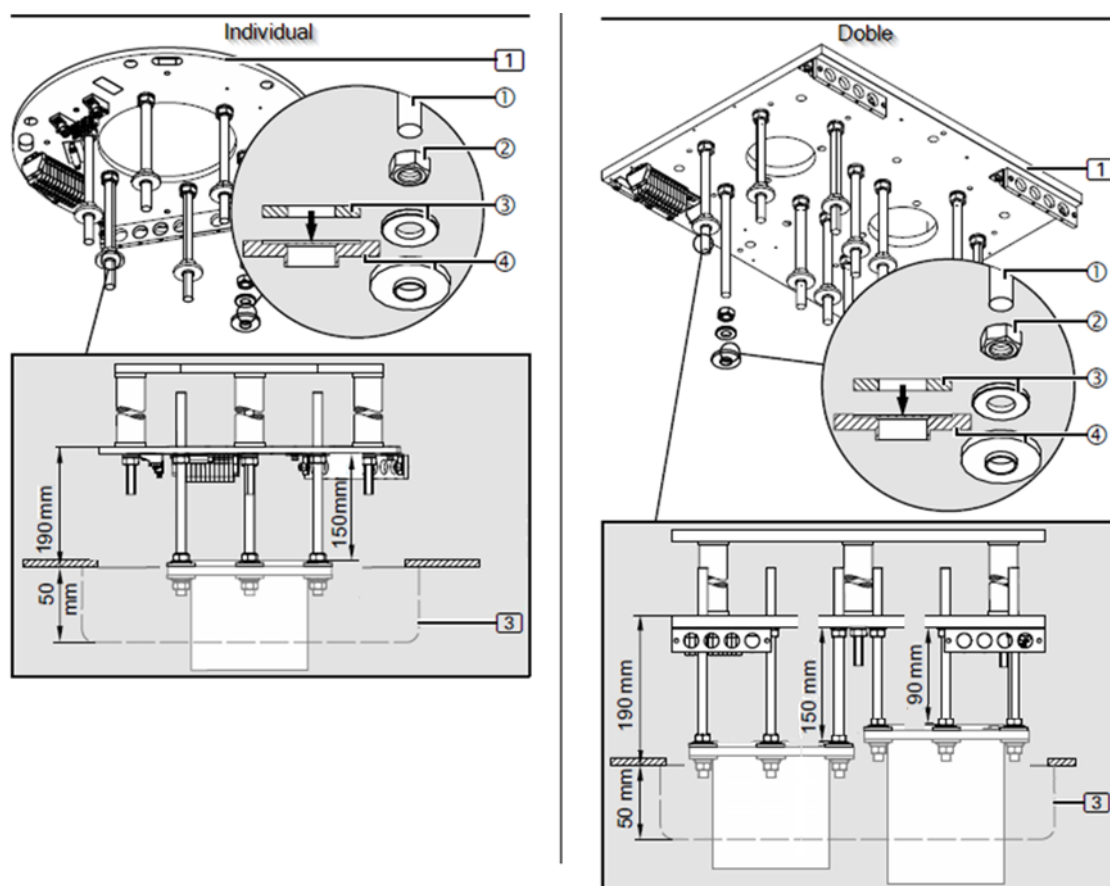

Fig. 12 Installation of the upper insulation to the threaded bolts with false ceilings
- Screw 1 M16 hex nut ② each onto the 6/12 M16 x 315 mm threaded bolts ③ and then fit 1 spring ring ④ each.
- All threaded bolts M16 x 315 mm ③ must be completely screwed into the interface plate 1.
The threaded bolts M16 x 315 mm ③ must protrude from the interface plate (1) 220 mm in the single version, 160 mm in the double version as shown in figure 12.
- Check that the shortened M16 threaded bolts ③ ③ are securely fastened at the correct distance from each other and fully screwed into the interface plate (1).